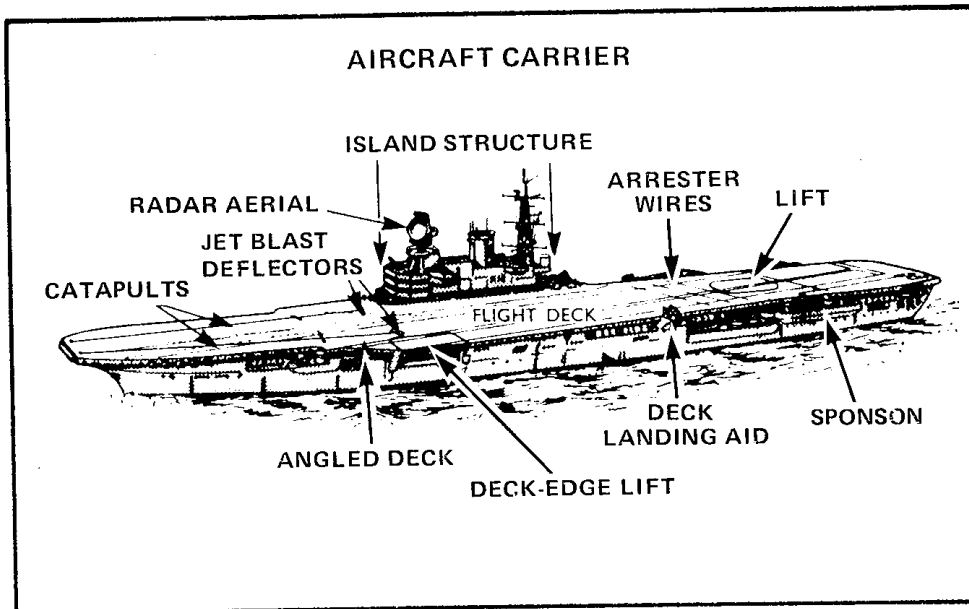

Figure 8-81 Aircraft Carrier
17. **Aircraft Carrier** — (See Figure 8-81.) Aircraft carriers provide offensive power at very long ranges by using their aircraft to attack with guided weapons, bombs, rockets, torpedoes and mines. Their aircraft also intercept and destroy enemy attacking and reconnaissance aircraft, and provide long-range reconnaissance for their own Fleet. Carriers have defensive armament, but rely on other types of ship and anti-submarine (A/S) helicopters for close protection against submarines. They are easily recognized by the flat top flight deck. They displace between 20,000 and 95,000 tons and are from 700 to 1,100 feet in length.
19. **Carrier Terms** — (See Figure 8-81.) These terms are commonly used in describing the parts of an Aircraft Carrier: